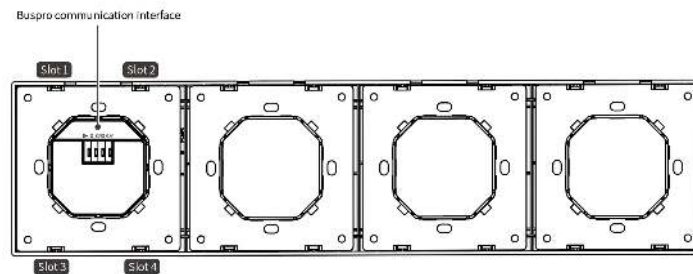

Figure 7
1. For multi-gang installation, use the multi-gang bracket and Buspro communication interface should face upwards during installation. (see Figure 7&8)